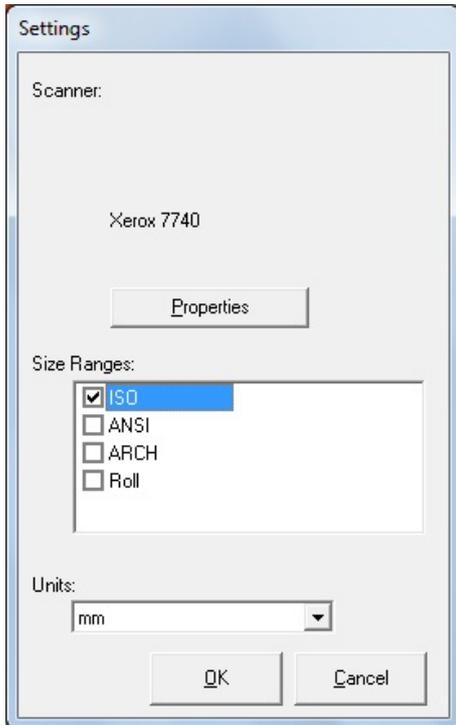

Fig 3-18
The Settings window is displayed (Fig 3-18) where the Xerox 7740 is identified. Proceed with the calibration overleaf.
- From the menu bar of the Accxes Copy interface, select Options > Settings to open the Settings window (Fig 3-18). Proceed with the calibration overleaf.